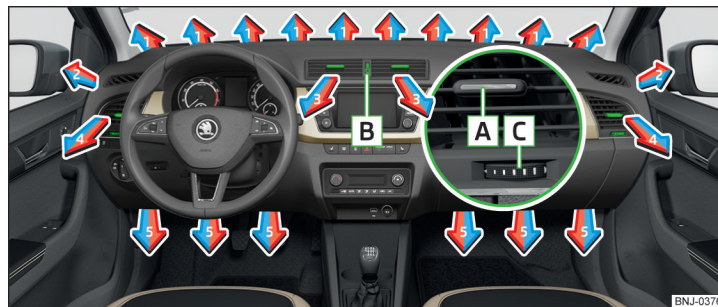

Fig. 124 Air outlet vents
The direction of airflow can be adjusted using the air outlet vents **3, 4** » Fig. 124, the outlets can be opened and closed individually.
The airflow direction is set by moving the adjustment element **A** » Fig. 124 in the desired direction.
- › Turn the regulator **B** upwards » Fig. 124.
- › Turn the regulator **B** downwards » Fig. 124.
Set the direction of the air outlet	Air outlet vents » Fig. 124